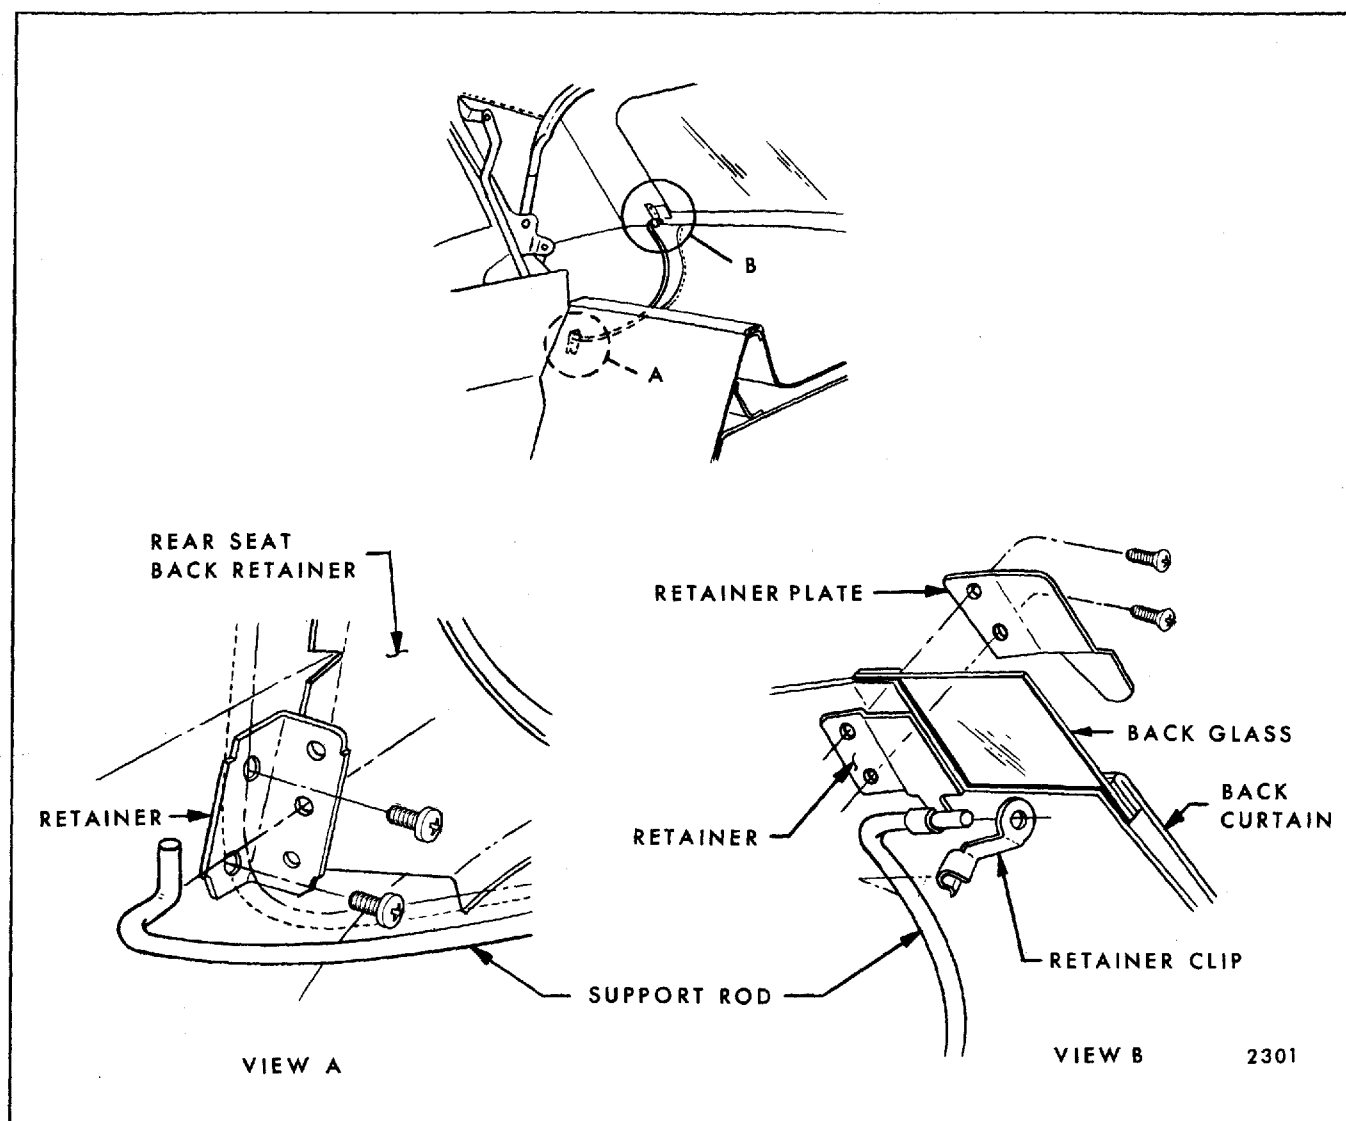

Fig. 6-46—"B & C" Body Back Glass Support Rod Attachments
4. On styles equipped with back curtain support rods disengage rods from back curtain (Fig. 6-46).